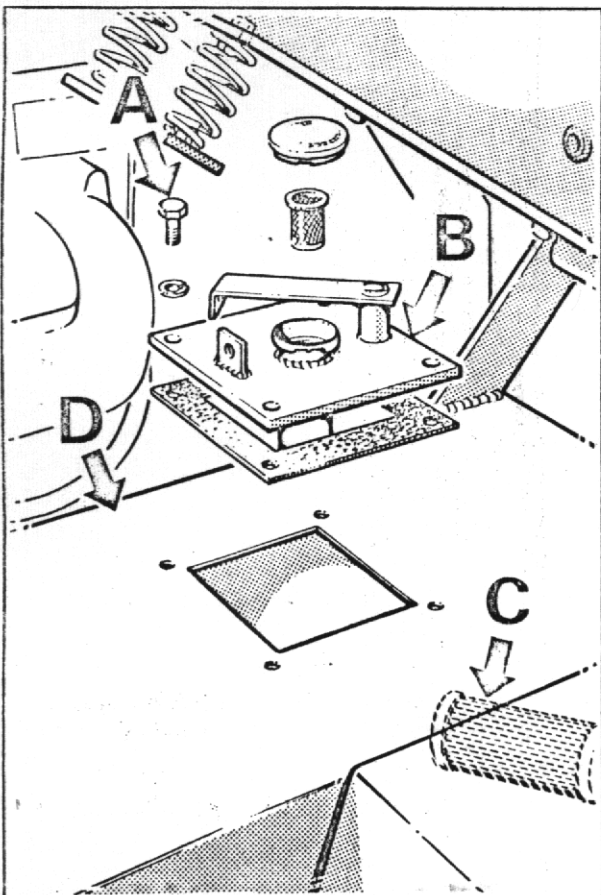

FIG. 8
2. Check that hydraulic filter is not blocked (See Fig.8)
- a) Remove the four setscrews (A) that secure the filler cap assembly (B) and remove assembly.
- b) Unscrew suction filter (C) from inside tank (D) and wash in white spirit. Dry with moisture-free compressed air.